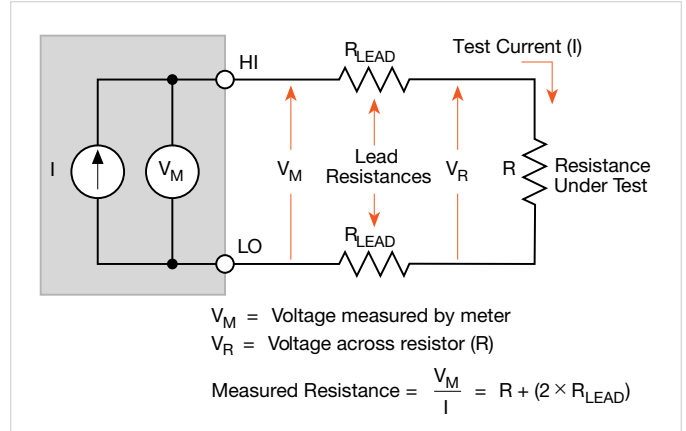

Figure 3. Two-wire resistance measurement with a SMU instrument
As shown in **Figure 3**, all test leads have some level of resistance, some as high as hundreds of milliohms. This can result in an incorrect measurement if the lead resistance is high enough.
Resistance measurements are often made using the two-wire method shown in **Figure 3**. The test current is forced through the test leads and the resistance (R) being measured. The meter then measures the voltage across the resistance through the same set of test leads and computes the resistance value accordingly.